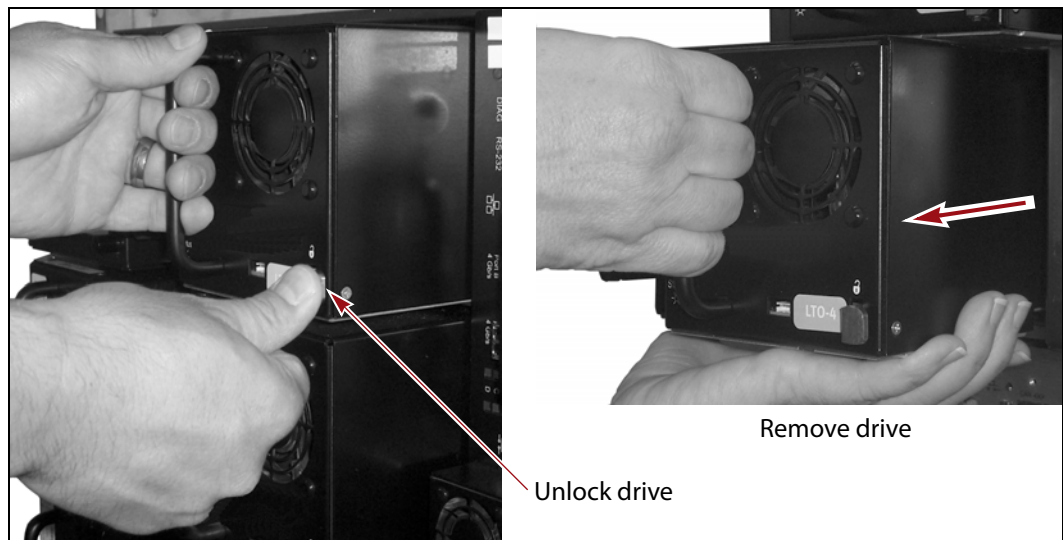

Figure 34 Release the drive lock and remove the drive.
Note: Depending on the type of drive, the drive lock may look different from the one shown in Figure 34.
- b. While supporting the bottom of the drive sled, pull outward on the drive sled handle to remove the drive from the library (Figure 34).